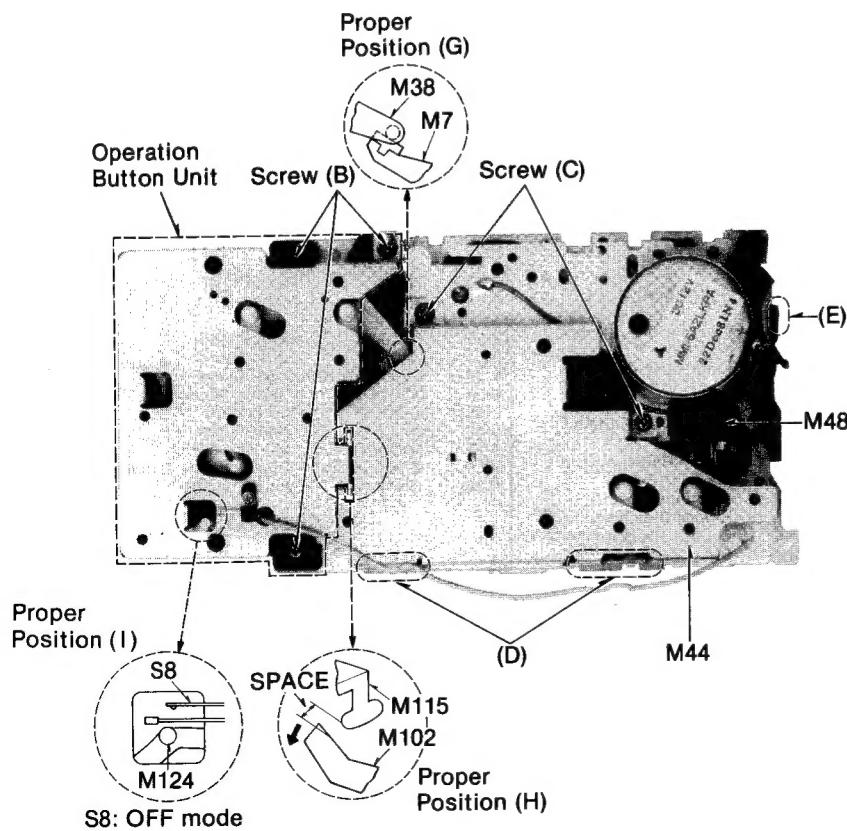

Fig. 2
2. Remove three screws (B) and remove operation button unit (see Fig. 2).
3. Remove two screws (C) and hook at section (D) to dismount flywheel retainer (M44) (see Fig. 2).
4. Remove hook at section (E) and cord clamper (M48) (see Fig. 2), and then remove two screws (F) (see Fig. 3) to dismount motor unit.
Before installing the operation button unit in the mechanism unit, pull the play changing lever (M102) of the mechanism unit in the direction of the arrow until it is locked, and set the pause, F.F. and rewind buttons of the operation button unit to OFF. At this time, check that all parts are installed at their proper positions at sections (G), (H) and (I) (see Fig. 2).